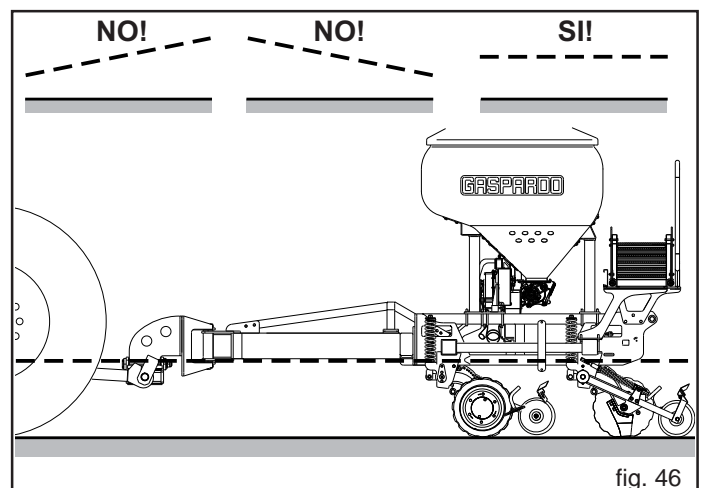

fig. 46
- 5) Make sure that the machine is operating with a horizontal frame (Fig. 46); only in that position can the machine load be equally distributed between the two series of seeding elements.